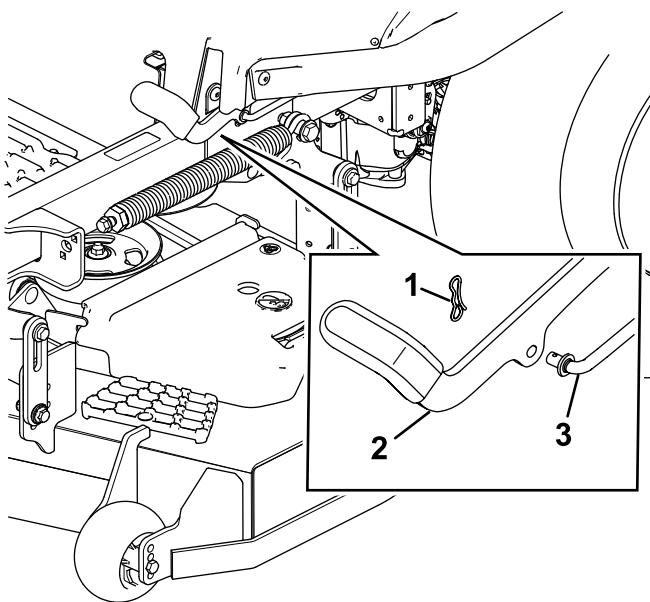

Figure 62
6. If an adjustment is necessary, disengage the parking brake. Remove the cotter pin from the brake linkage shaft (Figure 62).